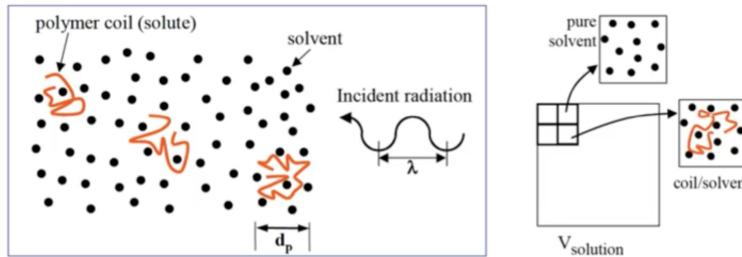

Figure 3.22: Fluctuations in concentration induce scattering.
- To quantify these changes in distribution, let's divide the volume of our solution into bins of volume δV as in Figure 3.22. Some of these bins will have pure solvent, and some will have bits of polymer.